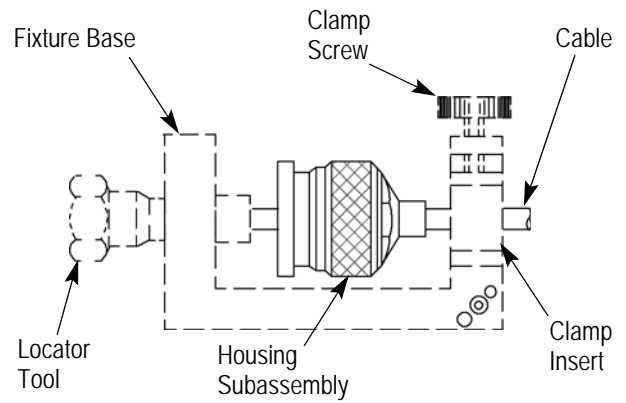

Figure 4
6. Insert center contact into housing subassembly. Place assembly into fixture base as shown in Figure 4.
7. Join the cable to the housing subassembly using solder of 60% tin and 40% lead at the location shown in Figure 4.